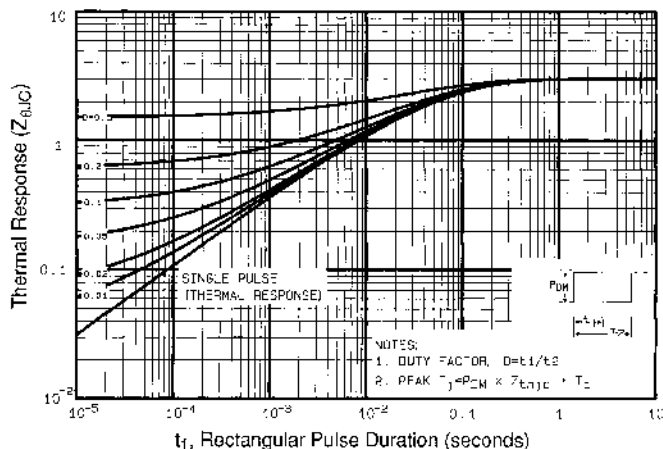

Fig 11. Maximum Effective Transient Thermal Impedance, Junction-to-Case
① Repetitive rating; pulse width limited by max. junction temperature (See Figure 11)
③ $I_{\text{SD}} \leq 3.1\text{A}$, $di/dt \leq 65\text{A}/\mu\text{s}$, $V_{\text{DS}} \leq V_{\text{BR(DSS)}}$, $T_J \leq 150^\circ\text{C}$